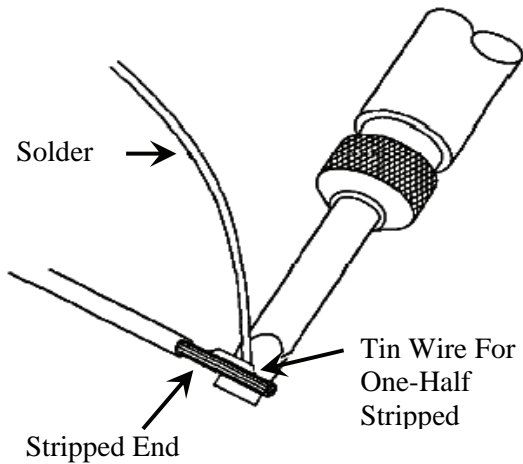

Figure 6. Tinning Wire using Soldering Iron
- d. Tin wire tips using soldering iron and solder (Figure 6). Tin wire for one-half its exposed length.